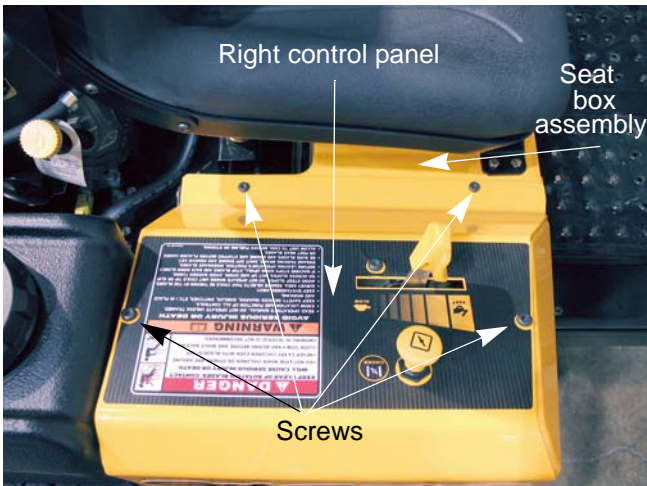

Figure 4.17
3. Remove the two screws that hold the right control panel to the seat box assembly using a T-30 torx driver. See Figure 4.17.